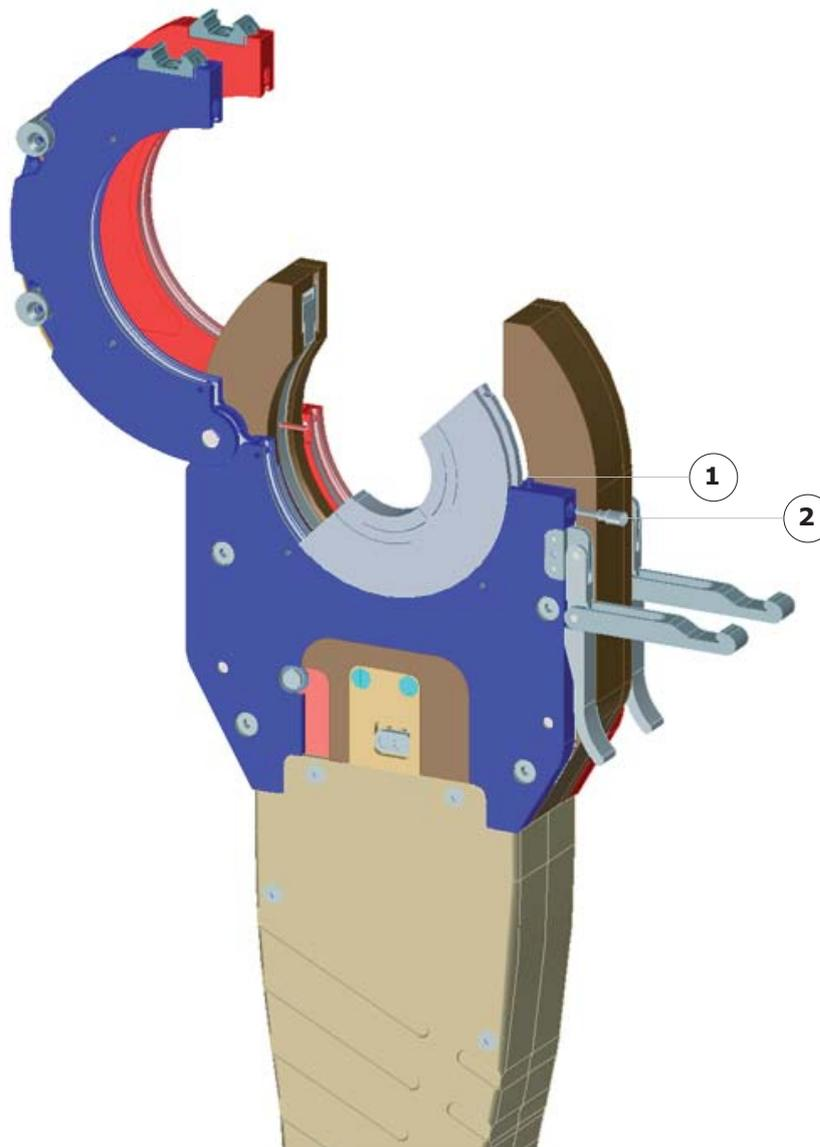

Fig.5.4 - *Installing shells*
- Place the notches of the locking system (Fig. 5.4 - 1) into the clamping system. The diameter and identification letter markings must be on the outside of the head.
- Lock the shell by tightening the screws (Fig. 5.4 - 2).